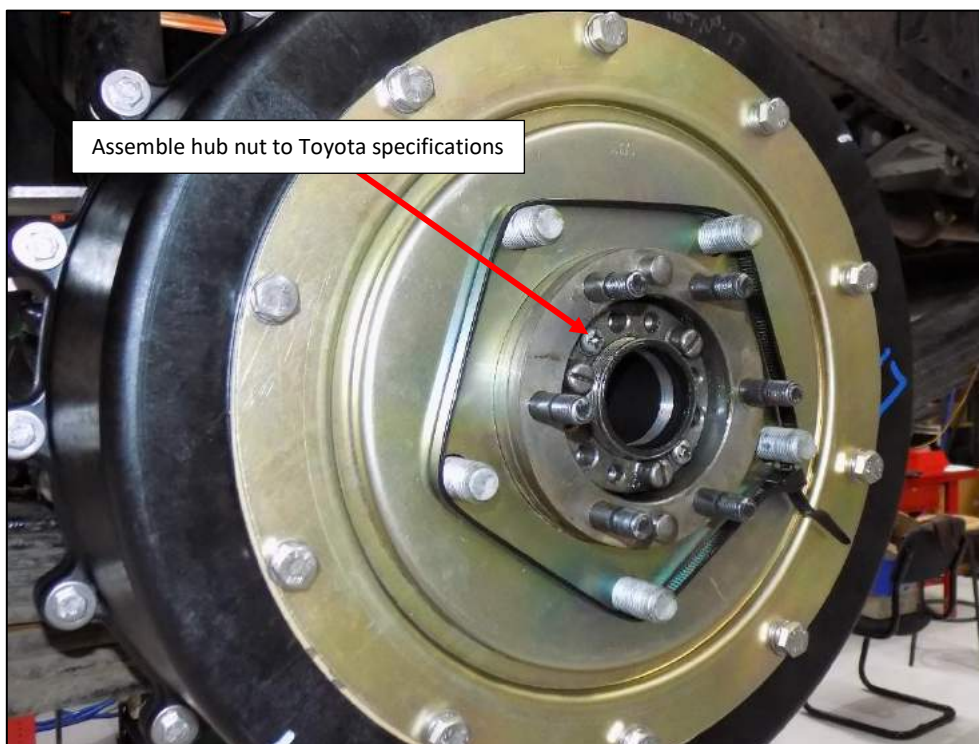

Figure 16
29. Adjust the outer wheel bearing, hub nut to Toyota specifications and then fit the locking screws (Figure 16).